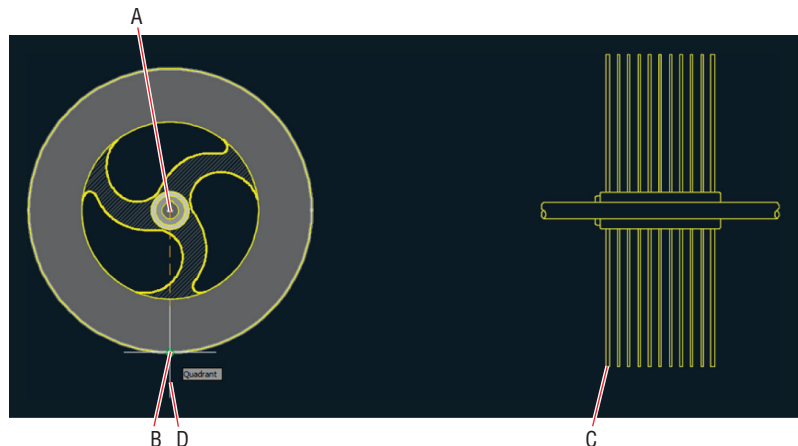

FIGURE 8.11 Scaling up the outer circle of the rotor enlarges its associative hatch.
6. Click the Scale tool on the Modify panel, select the rotor's outer circle, and press Enter. Select the center of the rotor (point A in Figure 8.11) as the base point. The command prompt reads as follows:
Type R (for Reference) and press Enter. Pick the reference length by clicking points A and B, shown in Figure 8.11.
7. Hover the cursor over point C, shown in Figure 8.11. Then bring the cursor back toward point D. When the tracking X appears on the drawing canvas, click point D. When the SCALE command ends, the rotor matches its depiction in the drawing on the right, and the solid associative hatch fills the new boundary.